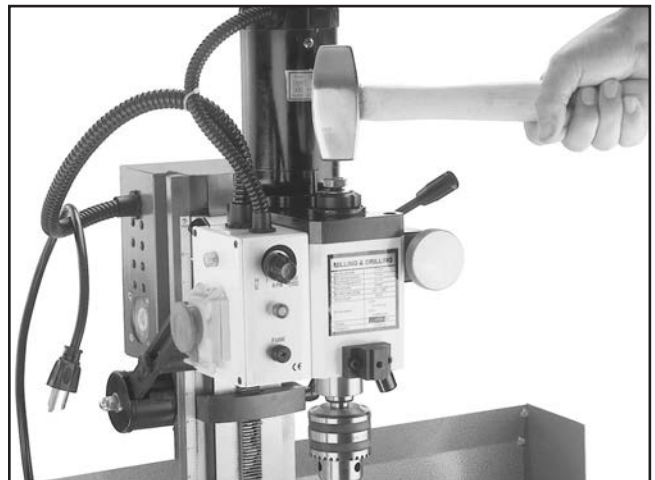

Figure 55. Tapping draw bolt loose with hammer.
5. Using a brass or wood hammer, tap the end of the draw nut as shown in **Figure 55**. The drill chuck should now become loose in the spindle.